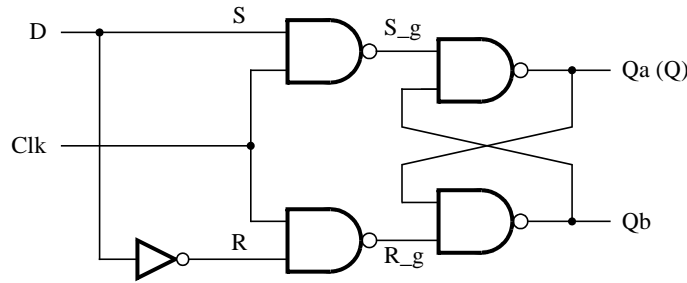
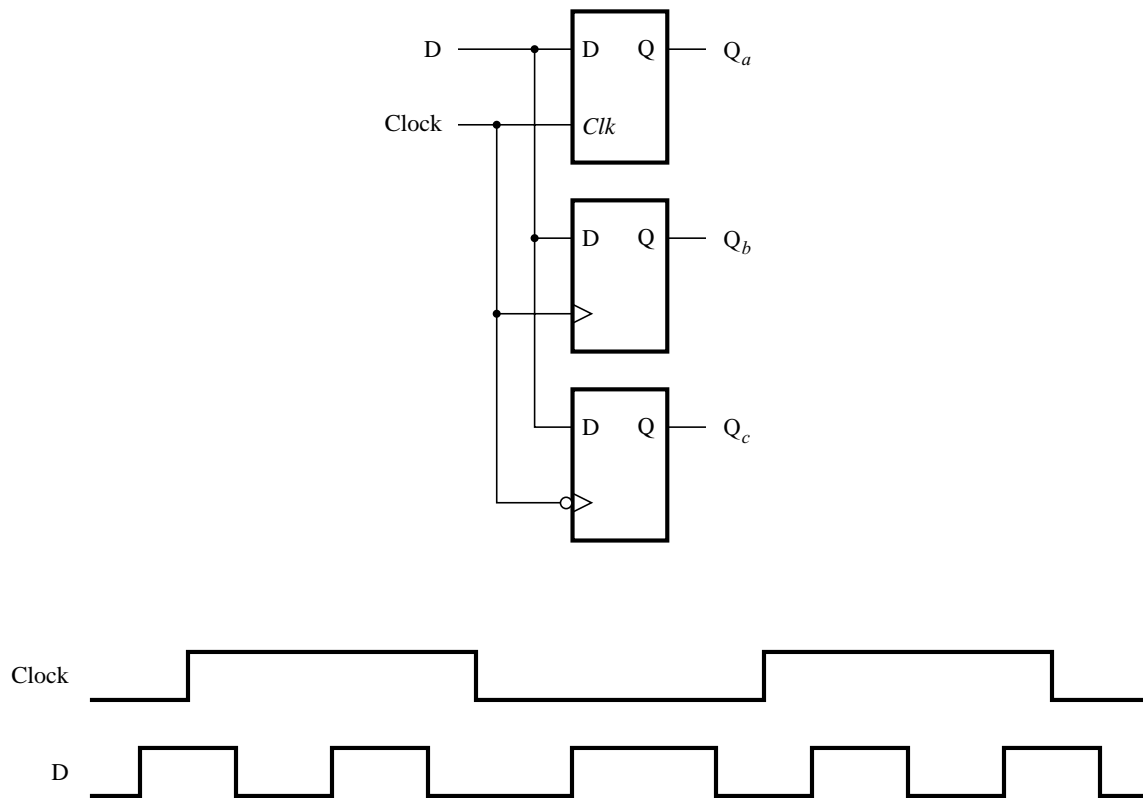

Figure 4. Circuit for a gated D latch.
Figure 6. Circuit and waveforms for Part IV.
Figure 4 shows the circuit for a gated D latch.
Figure 6 shows a circuit with three different storage elements: a gated D latch, a positive-edge triggered D flip-flop, and a negative-edge triggered D flip-flop.
2. Write a VHDL file that instantiates the three storage elements. For this part you should no longer use the *keep* directive (that is, the VHDL `ATTRIBUTE` statement) from Parts I to III. Figure 7 gives a behavioral style of VHDL code that specifies the gated D latch in Figure 4. This latch can be implemented in one 4-input lookup table. Use a similar style of code to specify the flip-flops in Figure 6.
4. Create a Vector Waveform File (.vwf) which specifies the inputs and outputs of the circuit. Draw the inputs D and $Clock$ as indicated in Figure 6. Use functional simulation to obtain the three output signals. Observe the different behavior of the three storage elements.